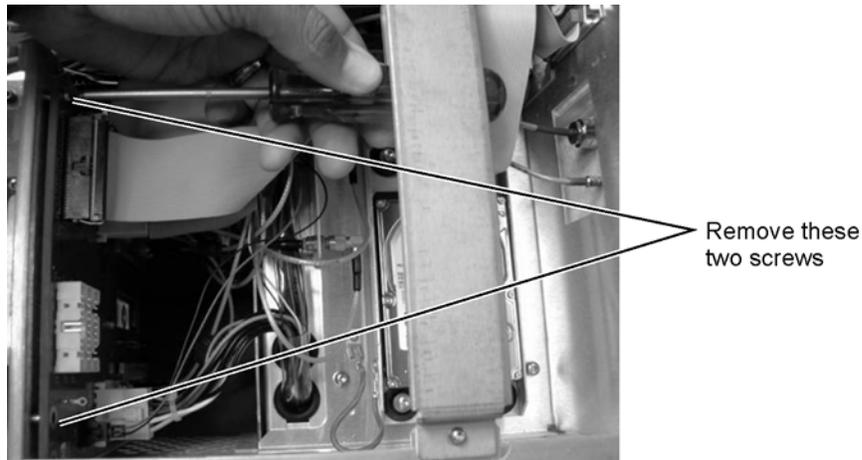

Figure 7-55. Disconnecting Screws from A6 Board
- 2 Use a T-10 TORX driver to remove the two screws that secure the assembly, as shown in Figure 7-55.